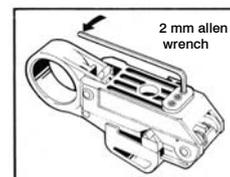

Figure 20
D. Adjustment of the adjustment screws. Rotate adjustment screws clockwise until they touch the gauge (Fig. 20). Then open the tool and remove the gauge. Install the cassette, and the tool is now ready for use.